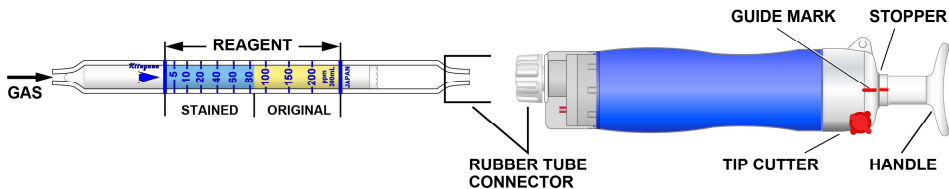

Fig.1
- ① Break both ends of detector tube.
- ② Insert the detector tube into aspirating pump securely as shown in Fig.1. (Arrow mark shall point to the pump).
- ③ Align the guide marks on the shaft and stopper of the aspirating pump.
- ④ Pull the pump handle at full stroke until it locks and wait for 1.5 minutes or until the completion of sampling is confirmed with the flow indicator of the pump (See descriptions about the flow indicator in the instructions of the pump).
- ⑤ Push the handle without removing the detector tube from the inlet, and air in the pump will be discharged perfectly. Then repeat the step ④ twice.
- ⑥ On completion of sampling, read the scale at the maximum point of the stained layer.